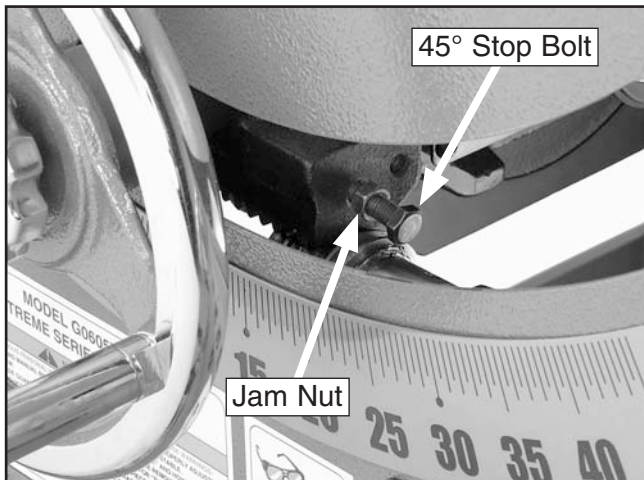

Figure 73. 45° stop bolt and jam nut.
- Loosen the jam nut (**Figure 73**) on the 45° stop bolt, adjust the stop bolt up or down, then check to see if the blade is 45° to the table.